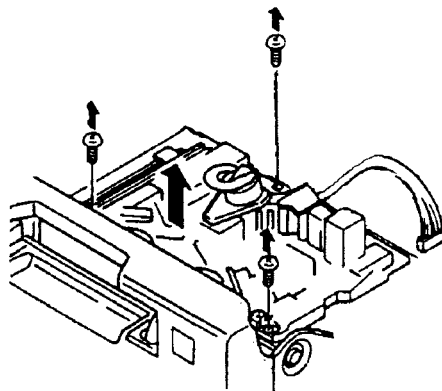

Figure 11
2. Disconnect the connector (A): CN4 on the LCD P.C.Board as shown in Figure 11.
3. Unscrew the screw and remove the LCD Fixed Plate, then remove the LCD Monitor Unit as shown in Figure 11.